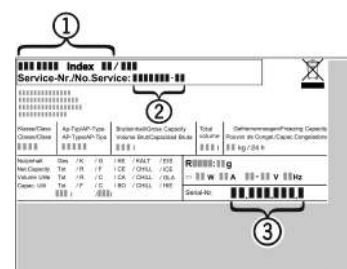

Fig. 11
- Read the appliance designation *Fig. 11 (1)*, service No. *Fig. 11 (2)* and serial No. *Fig. 11 (3)* off the model plate located inside the appliance on the left-hand side.
- Notify the customer service, specifying the fault, appliance designation *Fig. 11 (1)*, service No. *Fig. 11 (2)* and serial No. *Fig. 11 (3)*.